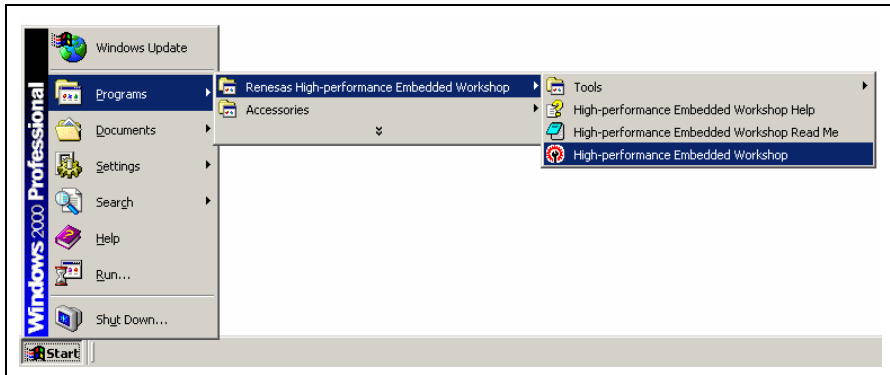

Figure 2.8 [Start] Menu
4. Activate the HEW from the [Programs] in the [Start] menu (figure 2.8).